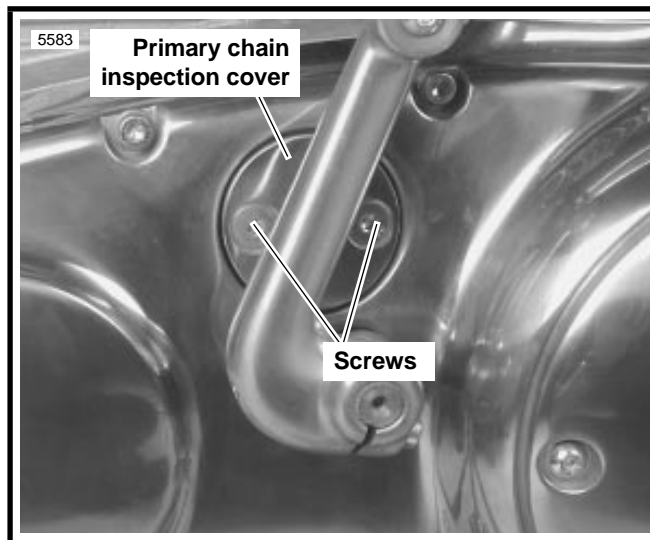

Figure 1-24. Primary Chain Inspection Cover
1. See Figure 1-24. Remove two screws from primary chain inspection cover.